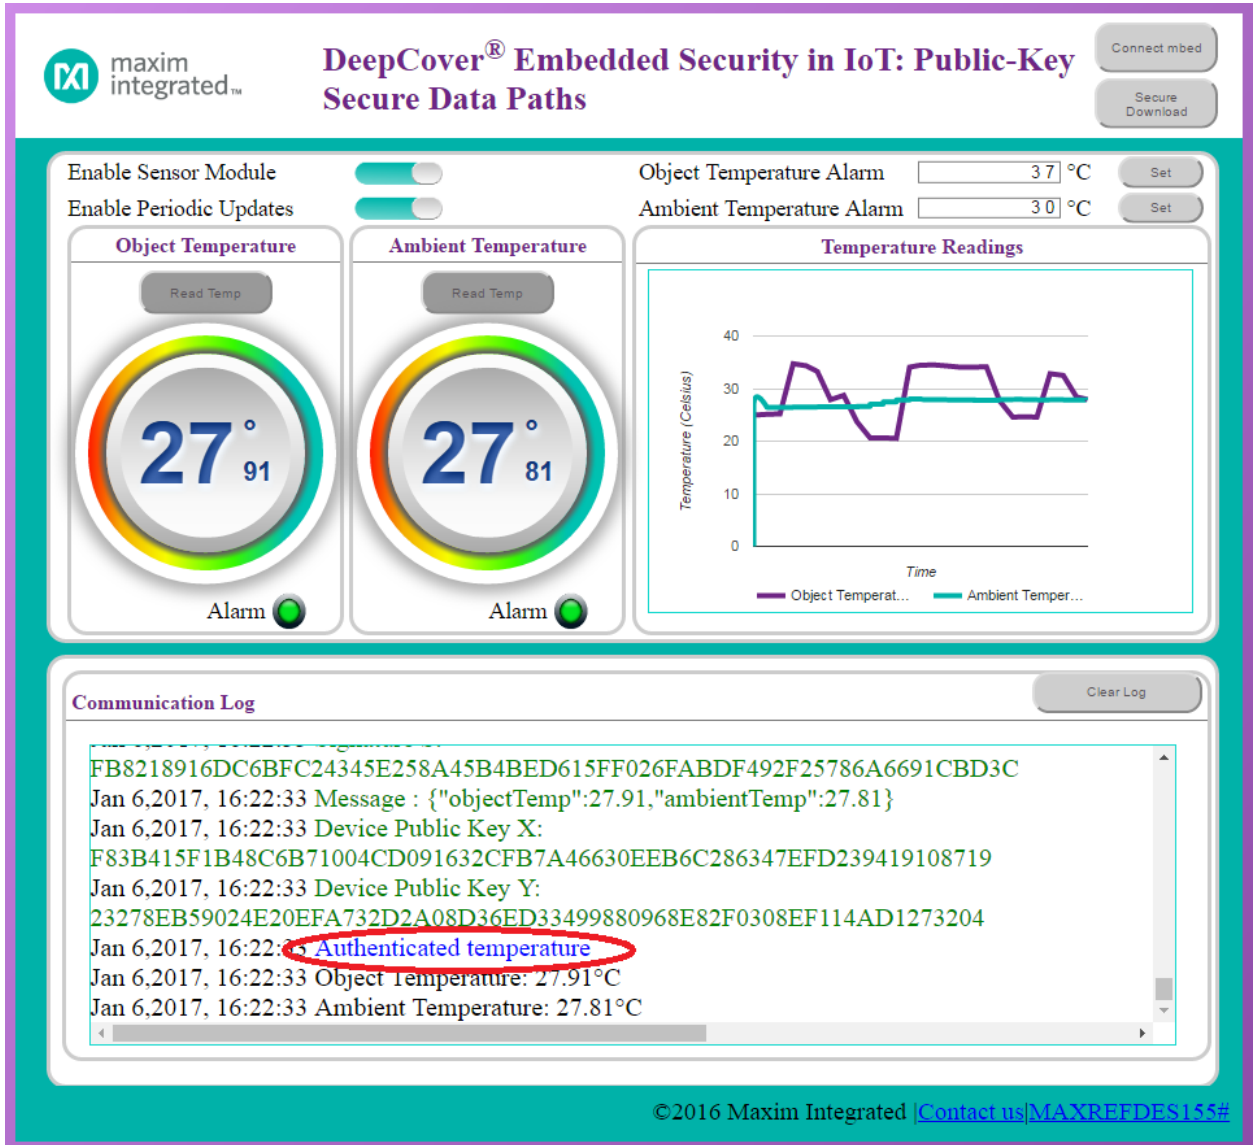

Figure 14. An Authenticated temperature reading with history graphed.
- Slide the **Enable Periodic Updates** and this continually requests and receives an authenticated temperature reading while graphing a log of the results in the **Temperature Readings** panel. The increments of the temperature readings occur every five seconds. Each reading can be verified to be authentic as listed in the **Communication Log** panel as shown in **Figure 14**.